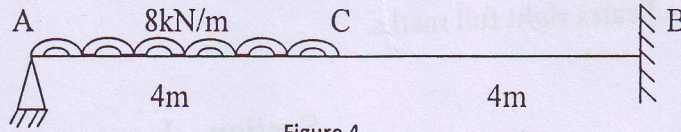

Figure 4
- Que. - 3 (A) Analyses the Beam with V_A as redundant as Shown in figure 4. Using Consistent Deformation Method, draw B.M.D. 04